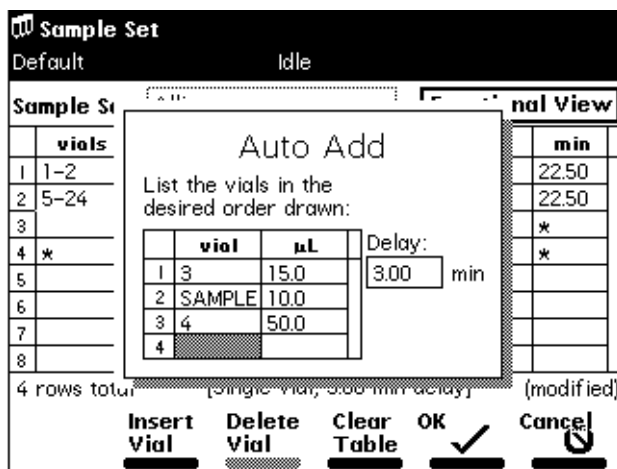

Figure 6-18 Auto Add Dialog Box
1. Select **AutoAdd** from the drop-down list of functions, then press the **Row Details** screen key to display the Auto Add dialog box (Figure 6-18).
In the Figure 6-18 example, vials 3 and 4 are “reagents” that react with compounds in the sample vial. In Figure 6-19, vials 25 to 30 are the *sample* vials used for the Auto Add. The Separations Module draws 15  $\mu\text{L}$  from vial 3, 10  $\mu\text{L}$  from vial 25, 50  $\mu\text{L}$  from vial 4, then holds the three aliquots in the sample loop for the specified 3.00 minutes before making the injection. The process is repeated for vials 26 to 30.